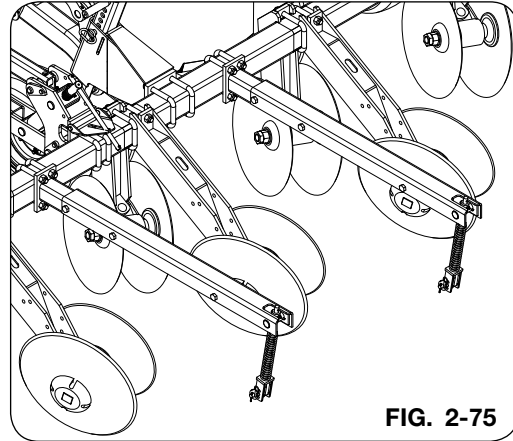

FIG. 2-75
1. Attach the bed leveler mounting arm (65789B) to the rear of the bedder arm tubing as shown in Fig. 2-75.